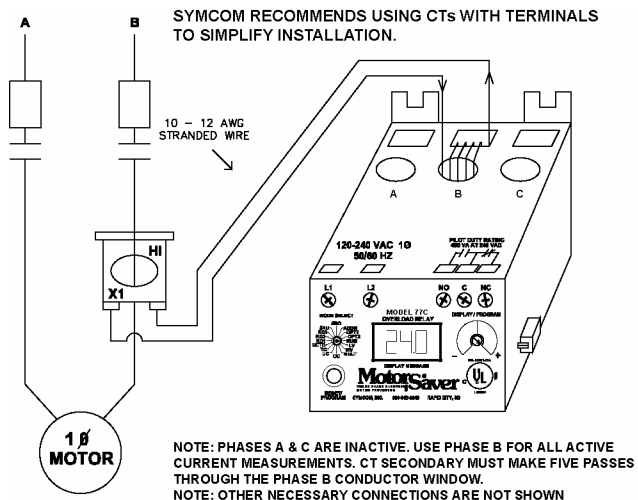

Figure 2: External CT wiring diagram
3. **For motors with full load current above 90 A**, an external current transformer (CT) must be used (see Figure 2). SymCom recommends using CTs with terminals for installation convenience. When using an external CT, five passes must be made through the holes in the Model 77C.